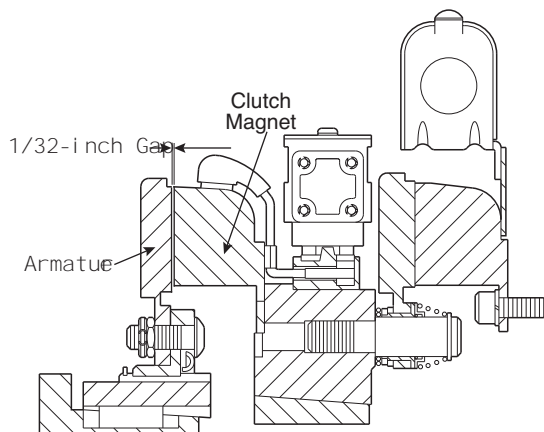

Figure 15
2. Tighten the bushing capscrews, taking a few turns at a time on each capscrew. As the capscrews are tightened, the armature will back away slightly from the magnet. There should be a clearance of 1/16" between the armature and magnet when the capscrews are completely tight. (Figure 15)